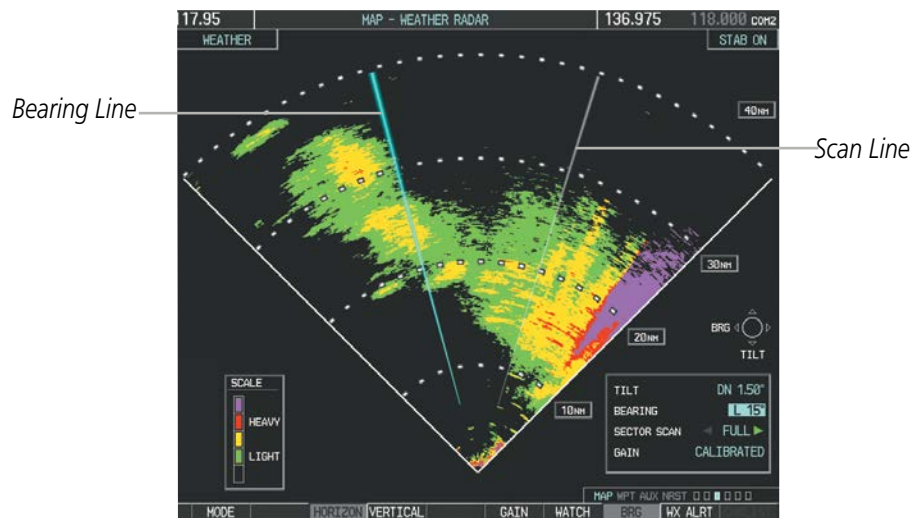

Figure 6-120 Bearing Line on Horizontal Scan
- 5) The horizontal scan is initially displayed (Figure 6-120). If desired, press the **VERTICAL** Softkey to change to vertical scanning.